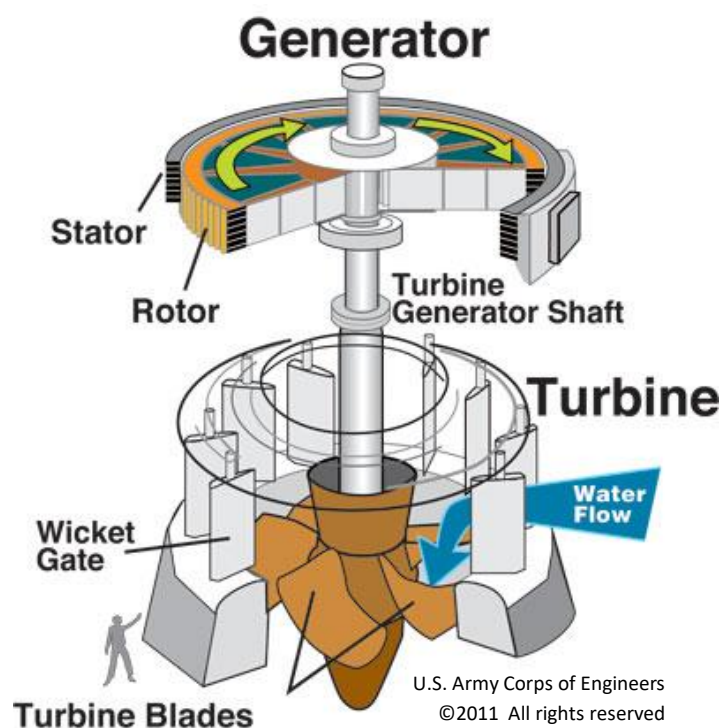

Figure 3A.33 Hydroelectric generator
**Dams** are built to trap flowing water to be directed into a controlled flow into the turbines for better efficiency. See Figure 3A.32.
The force of the running water pushes the blades on the turbines and the turbine shaft turns. The turbine shaft is directly coupled to the generator, Figure 3A.33. Similar to other generator systems that have been discussed, the motion of the turbines moves the magnetic field over the coils of the generator to produce electrical current. Once the water has moved past the turbine propellers, it is released back into the river on the other side of the dam.